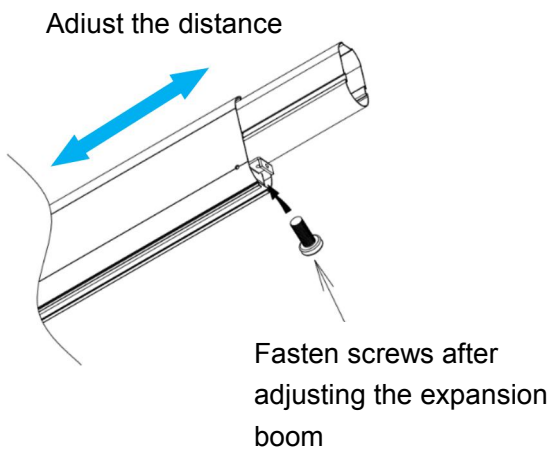

Figure 3-3
- 4) Adjust the length of the expansion boom (only for 4M and 5M device), and fasten the screw, as shown in Figure 3-3.